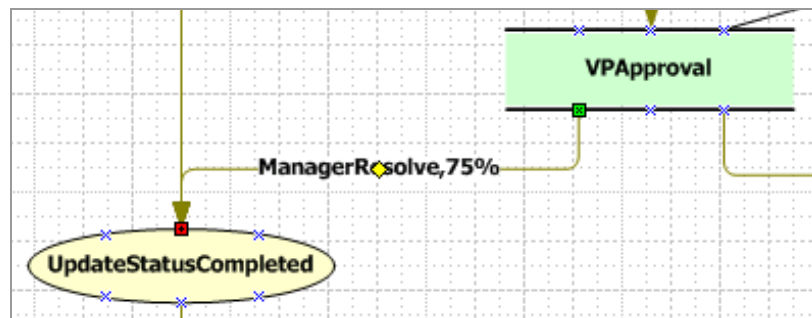

Figure 4-12. Flow Action Update
- a. Select the ManagerResolve connector that leads from the VPAApproval Assignment shape (Figure 4-12).